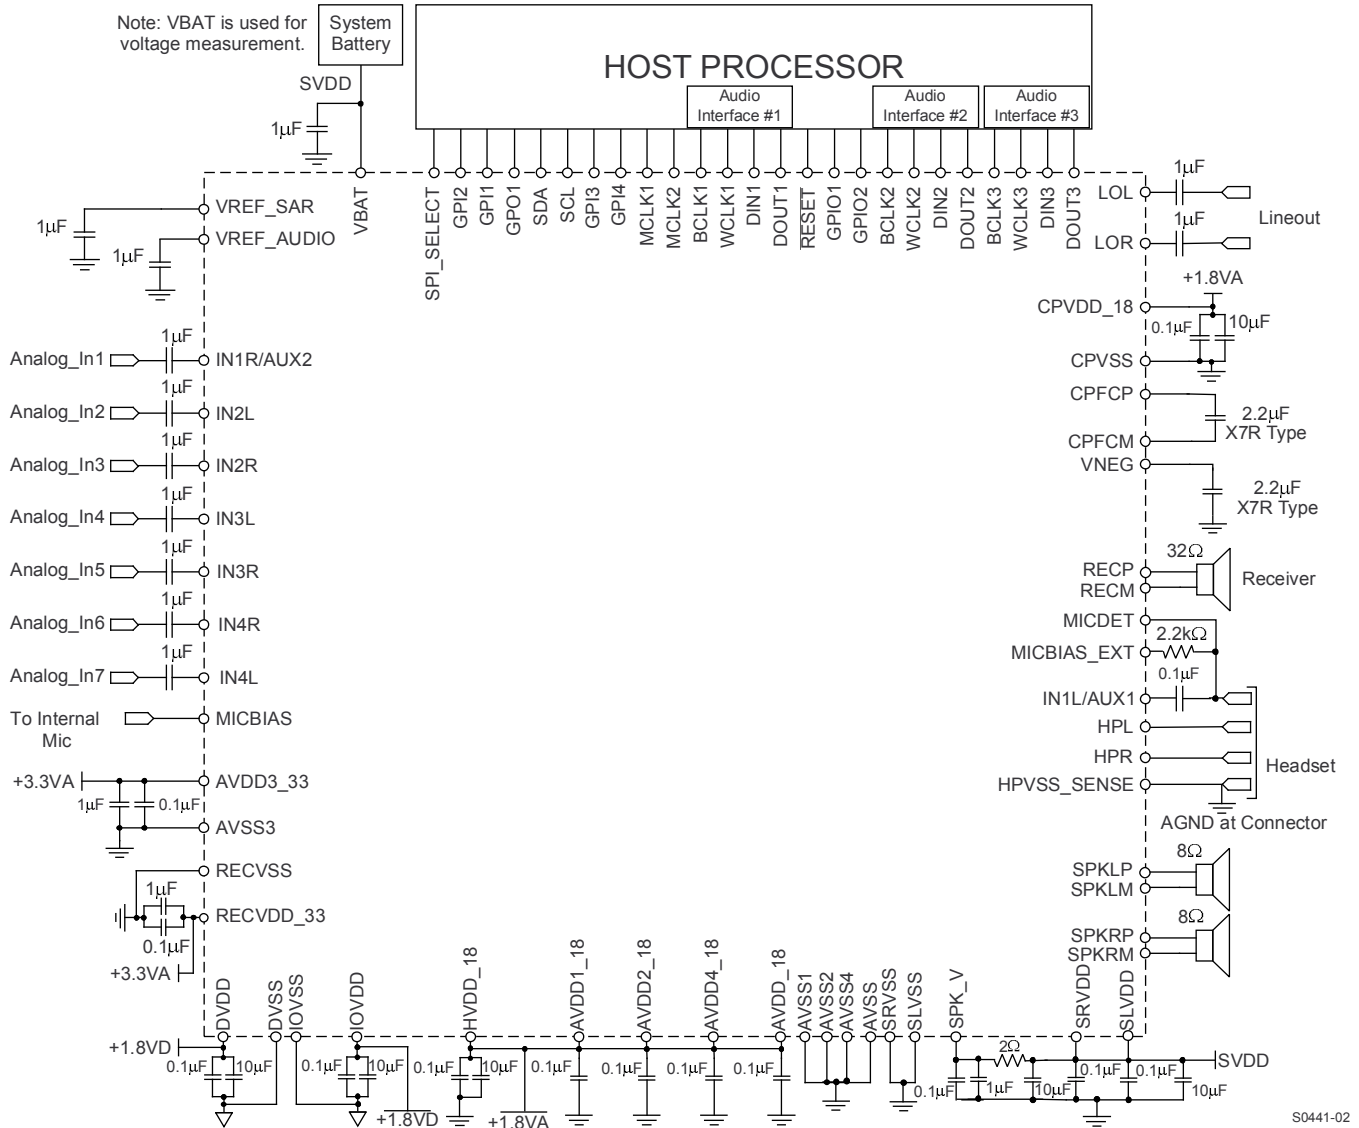

Figure 33. Typical Circuit Configuration
Figure 33 shows a typical circuit configuration for a system utilizing TLV320AIC3262. Note that while this circuit configuration shows all three Audio Serial Interfaces connected to a single Host Processor, it is also quite common for these Audio Serial Interfaces to connect to separate devices (for example Host Processor on Audio Serial Interface number 1, and modems and/or Bluetooth devices on the other audio serial interfaces).
- The decoupling capacitors for the power supplies should be placed close to the device pins. Figure 33 shows the recommended decoupling capacitors for the TLV320AIC3262.